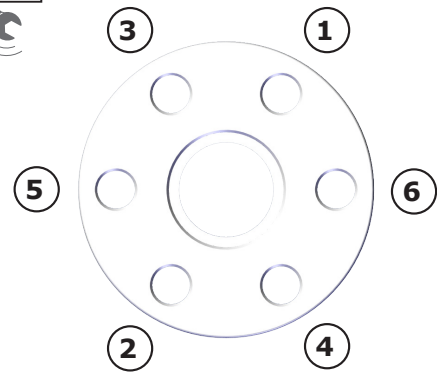

Fig. 4
- **4** - Tighten in the order indicated in the diagram by applying initially a torque of 50 m.N., then repeat the tightening process with a torque of 120 m.N. (Fig. 4)